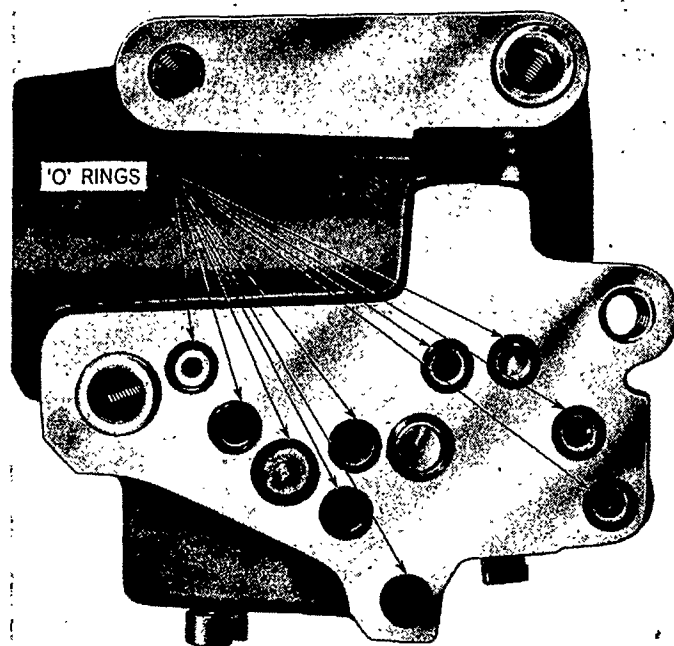

Figure 73
2. Install a new set of 'O' rings to the counterbores in the oil passages of the lift cylinder, Figure 73.